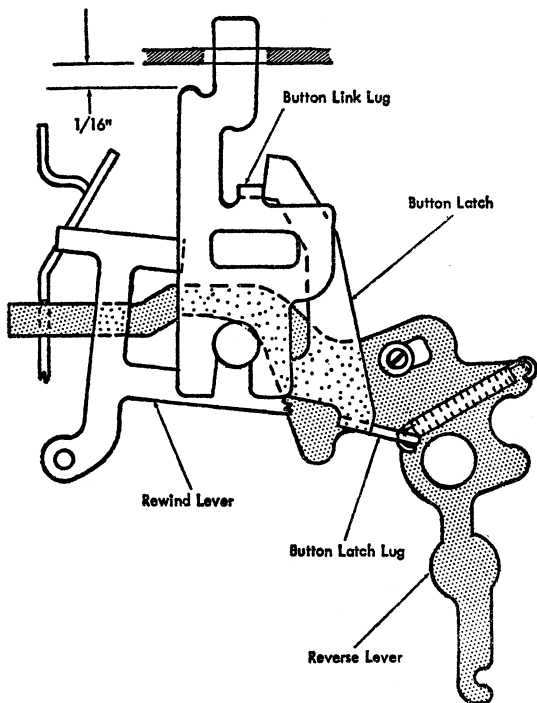

Figure 45. Button Latch Lug Adjustment
15. BUTTON-LATCH LUG. Latch the reverse lever and hold the drive shaft to prevent movement. Form the button-latch lug so the button latch cams off of the button link when the button link is raised to a point $\frac{1}{16}$ " from its upper limit of travel (Figure 45).